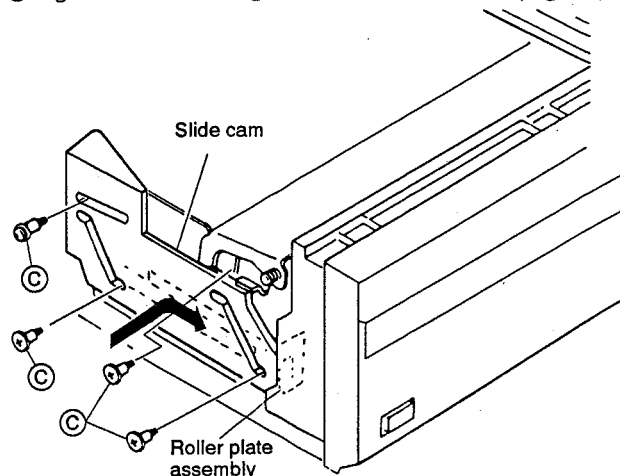

Fig. 18
- ② Tighten four screws C to install the slide cam. (Fig. 18)